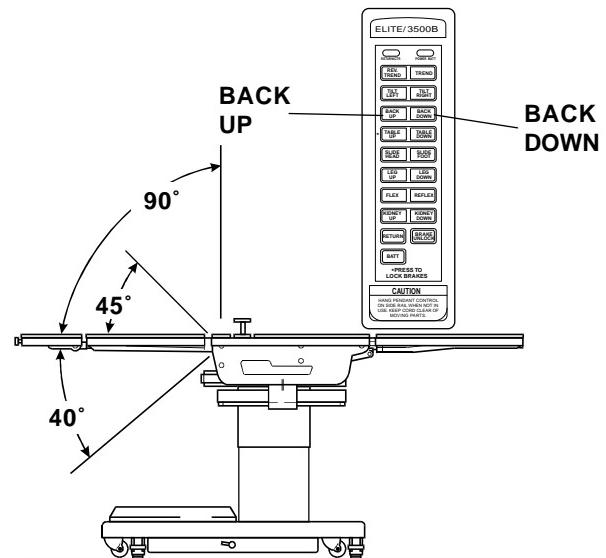

Figure 3-9. Back Section Positioning
**d. Back Section.** To raise the back section, press the BACK-UP button (figure 3-9). The back section will raise up to 90° above horizontal. To lower the back section, press the BACK-DOWN button. The back section will go down to 40° below horizontal.